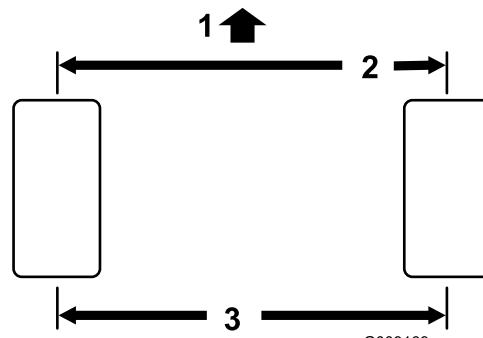

Figure 50
2. Measure the center-to-center distance (at axle height) at the front and rear of the steering tires (Figure 50). The measurement must be within $0 \pm 3 \text{ mm}$ ($0 \pm 0.12 \text{ inch}$) at the front of the tire then at the rear of the tire. Rotate the tire 90 degrees and recheck the measurement.